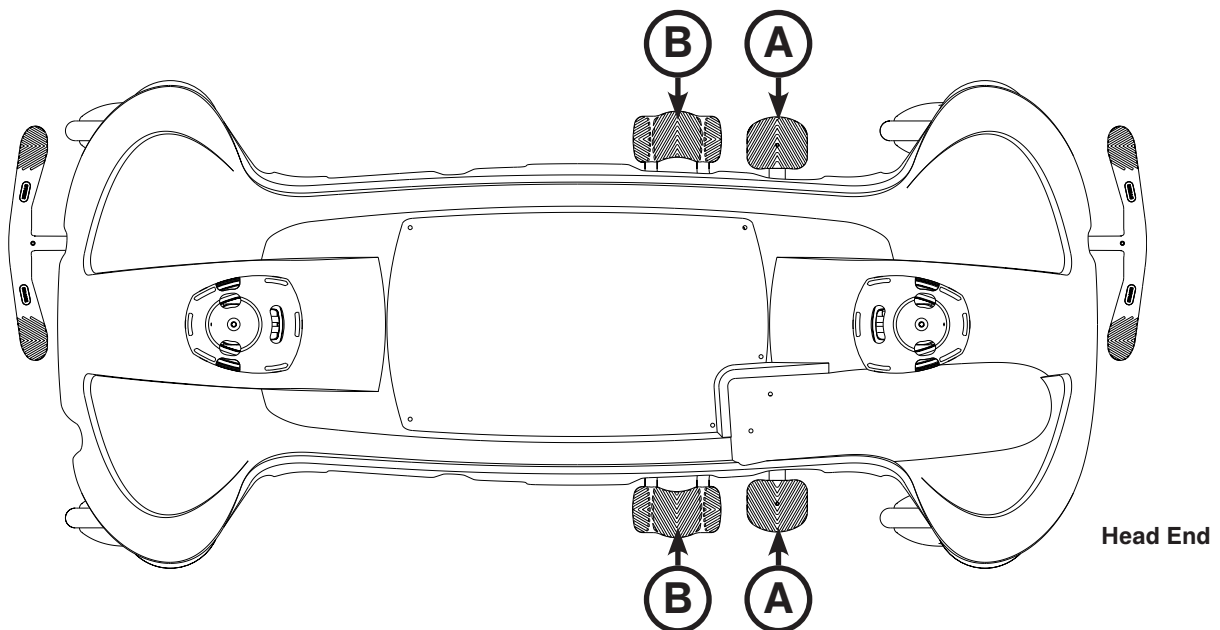

Figure 6: Stretcher Base Controls - Side Control
To operate the base controls, see Figure 6 to locate which pedals are used for what operation.
For Trendelenburg positioning (head down), depress the side of pedal (B) closest to the head end (see Figure 6 on page 24).
For Reverse Trendelenburg positioning (foot down), depress the side of pedal (B) closest to the foot end (see Figure 6 on page 24).
To lower the stretcher from reverse Trendelenburg position, depress pedal (A) once to raise the foot end of the stretcher, and then depress pedal (B) (see Figure 6 on page 24).